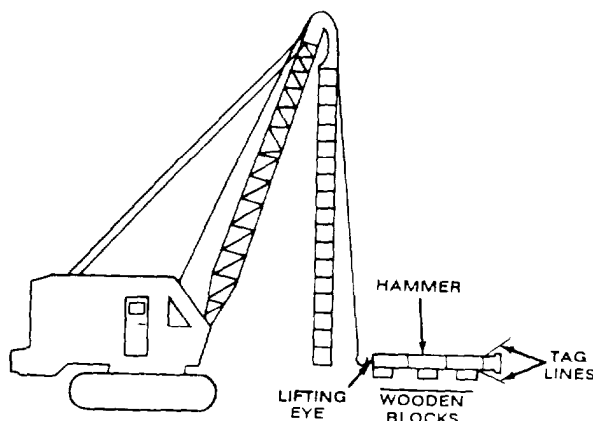

Figure 2-11.3. Raising Hammer
6. Connect the main winch cable to the hammer lifting eye. Remove the intake and exhaust port covers from the hammer. Holding the tag lines securely, slowly raise the hammer and position inside the leads (see figure 2-11.3).